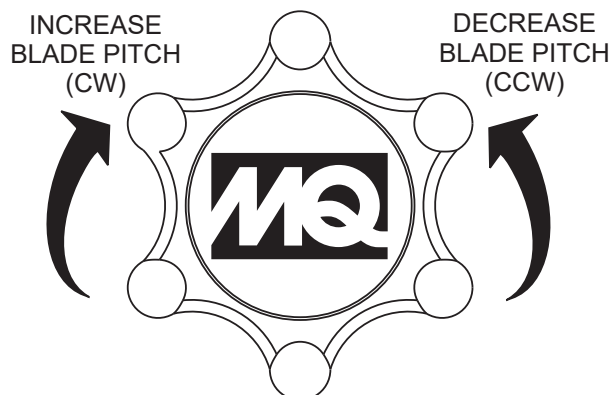

Figure 10. Blade Pitch Cable Adjustment (Standard Handle)
1. For trowels equipped with a **standard** handle, turn the star wheel counterclockwise to release tension on the blade pitch cable. See Figure 10.